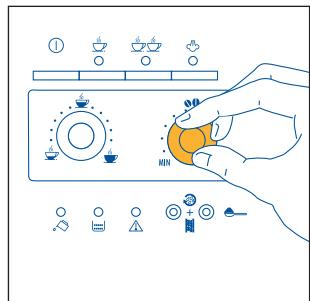
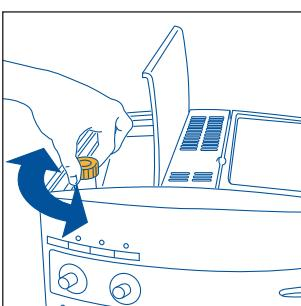

Fig.7
Fig.17
- 2) Adjust the right-hand knob (Fig. 7) to set the desired taste of the coffee. Turning the knob clockwise increases the quantity of coffee beans that the machine will grind, and thus makes the taste of the coffee stronger. When using the machine for the first time, the correct position of the knob can be found by trial and error. Make sure not to turn it too far clockwise, otherwise the coffee will be delivered too slowly (in drops), above all when preparing two cups of coffee.
NOTE 1: If the coffee is delivered a drop at a time or not at all, turn the grinding coarseness regulator (fig. 17) one click clockwise (see para. 6). Turn a click at a time until the coffee is delivered satisfactorily.
NOTE 2: If the coffee is delivered too fast and is not creamy enough, turn the right-hand knob (fig. 7) clockwise. Proceed by trial and error to find the correct position of the knob. Make sure not to turn the knob too far clockwise, otherwise the delivery may become too slow (in drops), above all when making two cups of coffee. If, after several coffees, the cream is still not satisfactory, also turn the grinding adjustment knob (Fig. 17) one click clockwise (see par. 6).
To resolve this problem, re-set the grinding coarseness on the coffee grinder by adjusting the knob (Fig. 17) one click anticlockwise (as described in chap. 6).
Nonetheless, after having made the first coffees, if delivery is too fast or too slow (in drops), the grinding coarseness must be adjusted using the knob (Fig.17) located inside the bean container. Turning one click (one number) clockwise achieves faster delivery of the coffee (without drops).